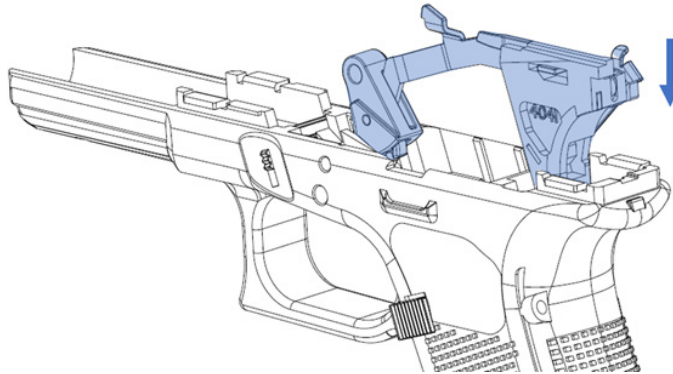

Figure 47: Trigger Group Subassembly installation direction.
b) Install the Trigger Group Subassembly into the frame, inserting the Trigger first. Then insert the Trigger Housing into the cavity and press down firmly (Figure 47).